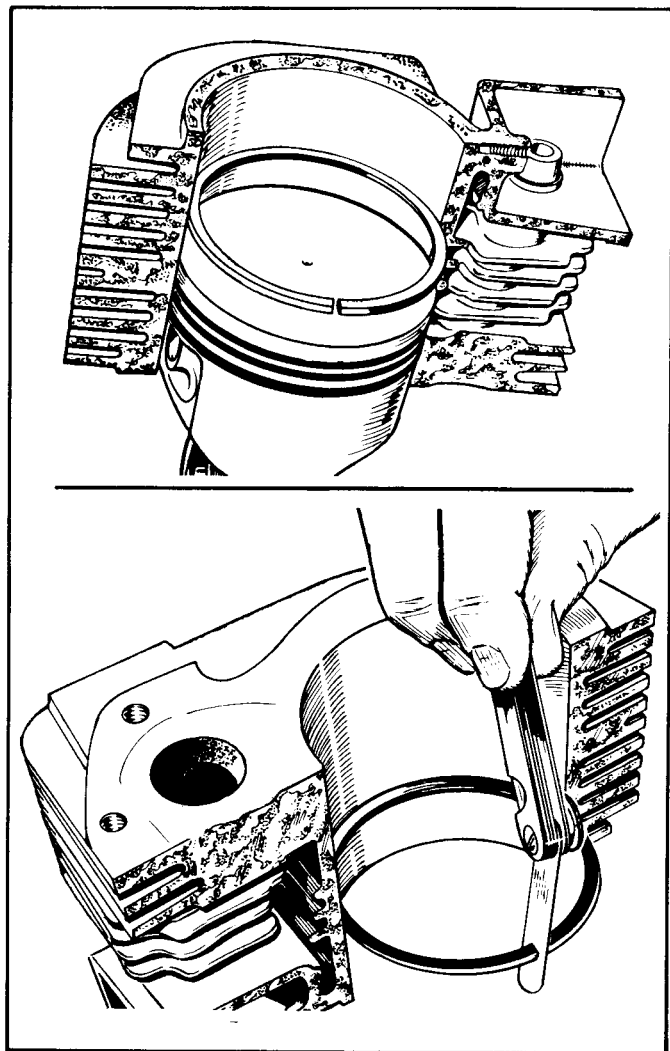

FIGURE 12. CHECKING RING END GAP
- Install the piston ring in the cylinder bore. Invert the piston and push the ring to the end of ring travel, about halfway into the bore, which trues the ring end gap. Check the gap with a feeler gauge as shown in Figure 12.